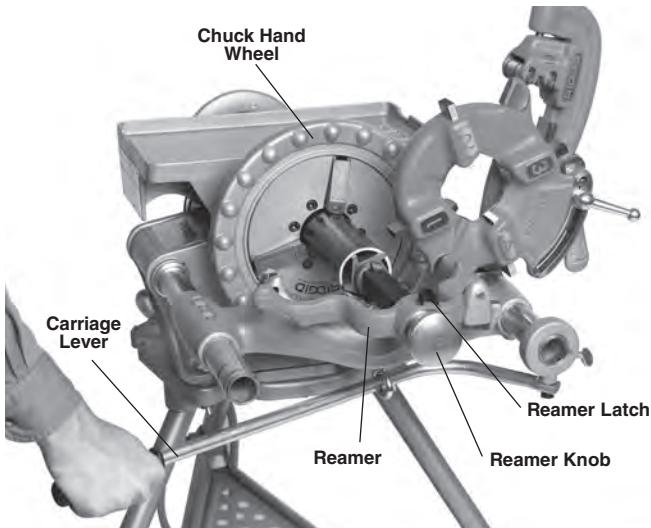

Figure 22 – Reaming with No. 341 Reamer
2. Extend reamer by pressing latch and sliding knob toward pipe until latch engages end of bar (*Figure 22*).